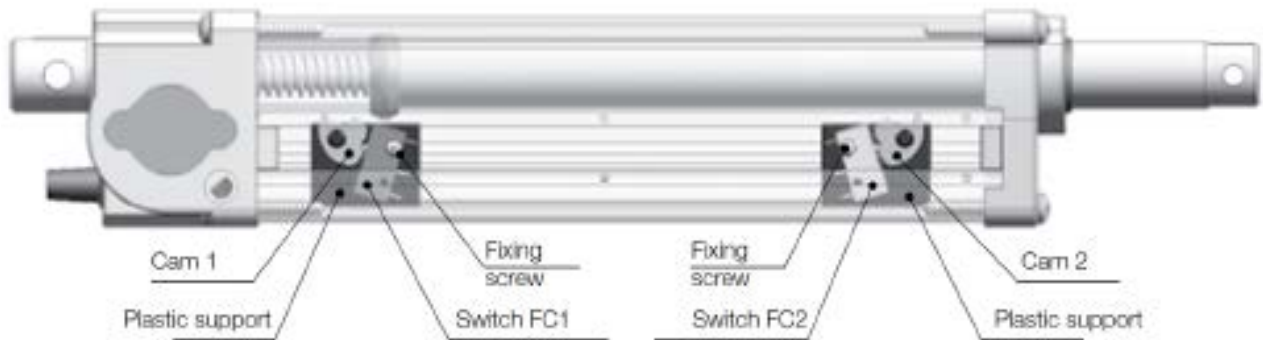

Figure 6.1 – Stroke end limit switches FC2
- Loosen the screws (1) of the limit switches cover.
- Remove the cover (2): pull out side A first (push rod side), then side B (gearbox side).
- Loosen the switch fixing screw (see Fig. 6.1).